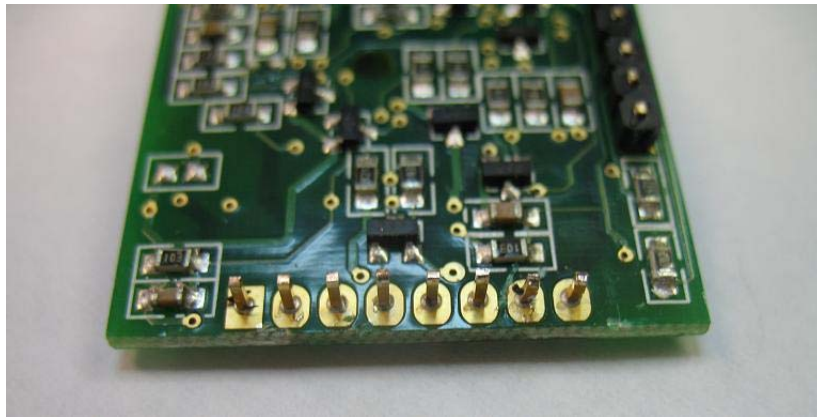

Figure 2.
2. Carefully pull the plastic spacer off the header at the end of the board, leaving the pins intact per Figure 2.